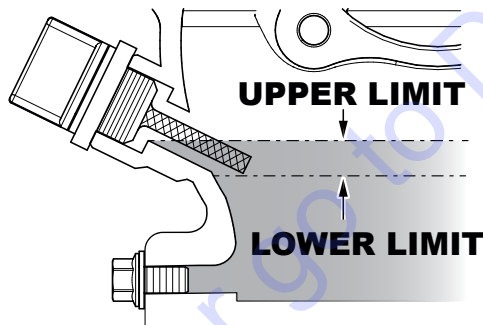

Figure 9. Oil Level
4. If the oil level is low (Figure 9), fill to the edge of the oil filler hole with the recommended oil type (Table 4). Maximum oil capacity is 9.5 ounces (280 CC).